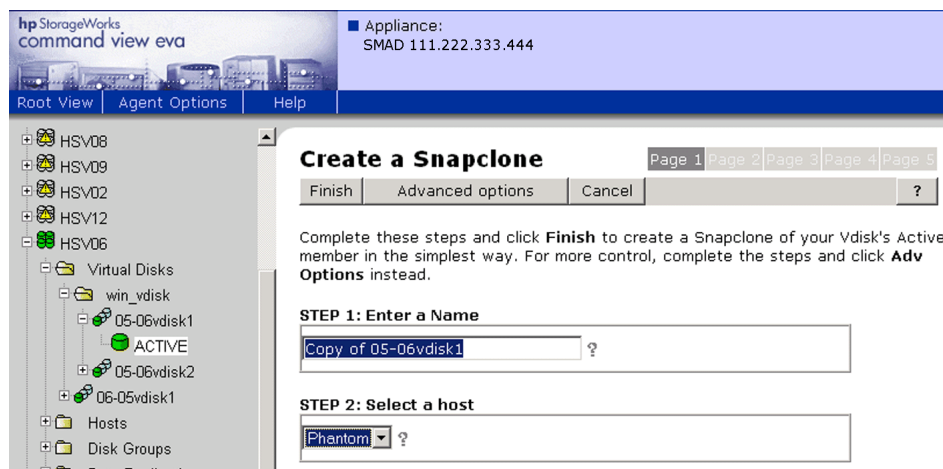

Figure 67: Create a Snapclone page 1
- c. Click the **Create Snapclone** tab. The Create a Snapclone page 1 is displayed (see Figure 67).